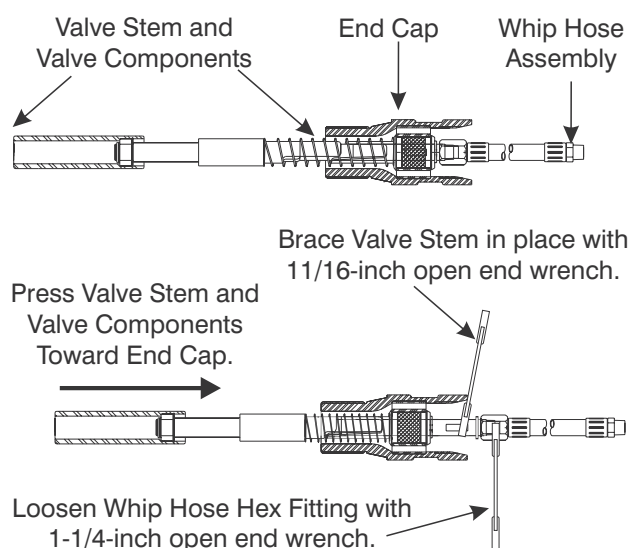

Figure 8-11. Press Valve Stem into Position
1. Secure the End Cap (8) as described in step 1 of Section 8.9.1.
2. By hand, press the Valve end of the Valve Stem (5) toward the End Cap until the flats on the stem are accessible as shown in Figure 8-11.